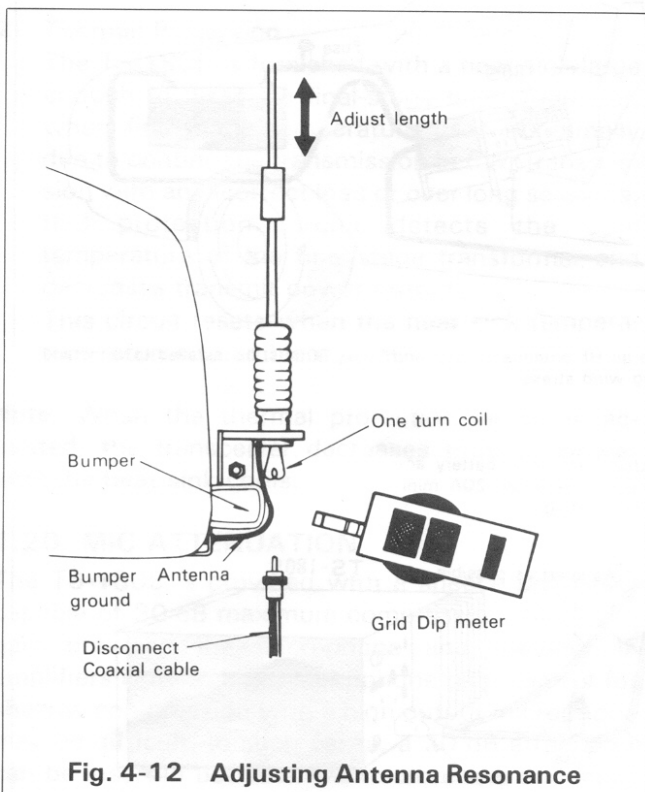

Fig. 4-12 Adjusting Antenna Resonance
HF antennas are larger, have more wind load, and are heavier than VHF antennas. A bumper mount is recommended for general use. The mount must be perfectly grounded to the car body since the body itself functions as the ground plane for the mobile antenna. (Refer to Fig. 4-12)
(3) Antenna Adjustment (Fig. 4-12)
The antenna should initially be adjusted with a dip meter, then impedance matching should be checked with an SWR meter. (See Fig. 4-12)